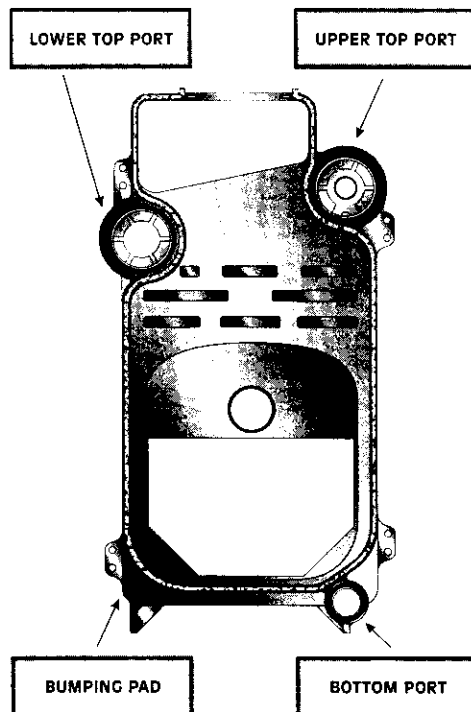

Figure 11: Torque Specification/Procedure
- Draw the sections together evenly, in three rotations. Torque each port to 20 ft-lbs for the first rotation, then to 40 ft-lbs for the second rotation, then to 60 ft-lbs for the third rotation. Use the following sequence until all three ports touch metal-to-metal at 60 ft-lbs. See Figure 11 for port reference.
- Tighten these (3) three locations only to a torque value of 60 ft-lbs. **DO NOT EXCEED.**